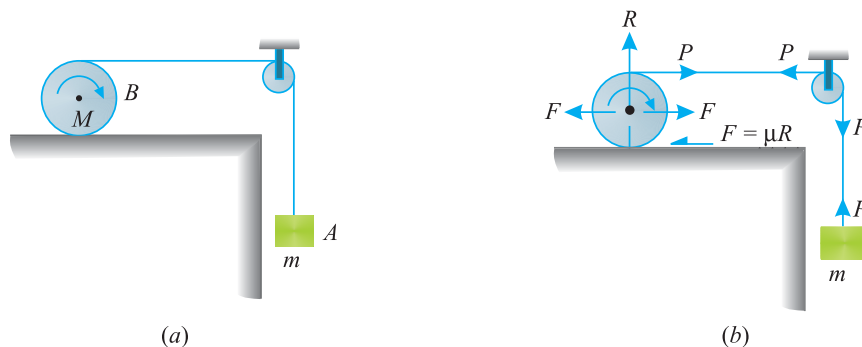

Fig. 31.15. Body rolling on a rough horizontal plane without slipping.
**Example 31.15.** Find the acceleration ( $a$ ) on a solid right circular roller A of mass 20 kg when it is being pulled by another body B of mass 10 kg along a horizontal plane as shown in Fig. 31.15.